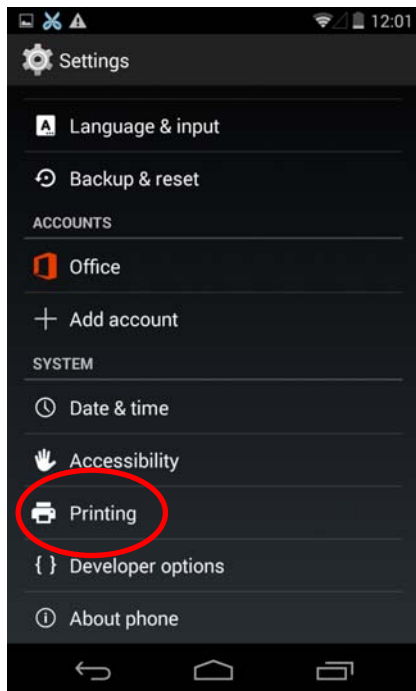

Figure 21
3.2 Find out "Printing" in "Settings" interface and enter into, as shown in Figure 21.